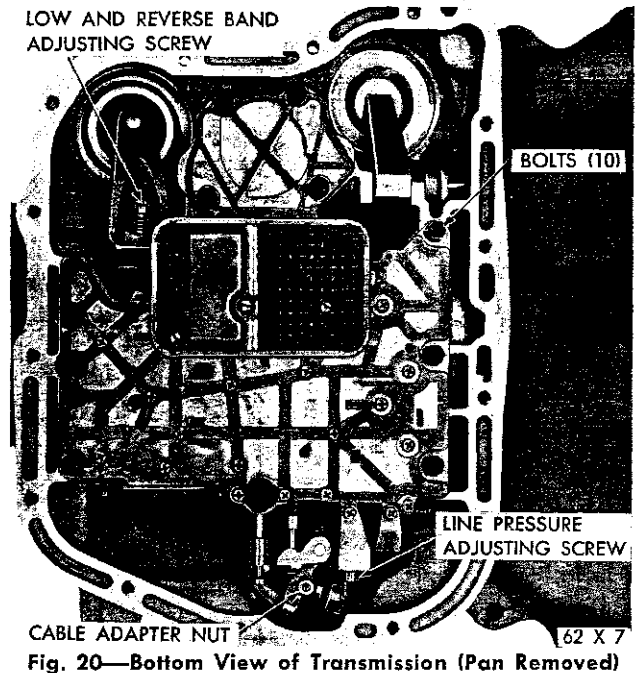

Fig. 20—Bottom View of Transmission (Pan Removed)
(2) Loosen the adjusting screw lock nut and back off the nut approximately five turns (Fig. 20). Inspect the adjusting screw for free turning in the lever.
(3) Using wrench, Tool C-3380 with adapter C-3705, tighten the band adjusting screw 47-50 inch-pounds torque. If adapter C-3705 is not used, tighten the adjusting screw to 72 inch-pounds which is the true torque.
(4) Back off the adjusting screw 3 turns. Hold the adjusting screw in this position and tighten the lock nut to 35 foot-pounds torque.
(5) Reinstall the oil pan using a new gasket. Tighten the oil pan bolts to 150 inch-pounds torque.
(6) Fill the transmission with Automatic Transmission Fluid Type "A", Suffix "A". Refer to Paragraph 8.